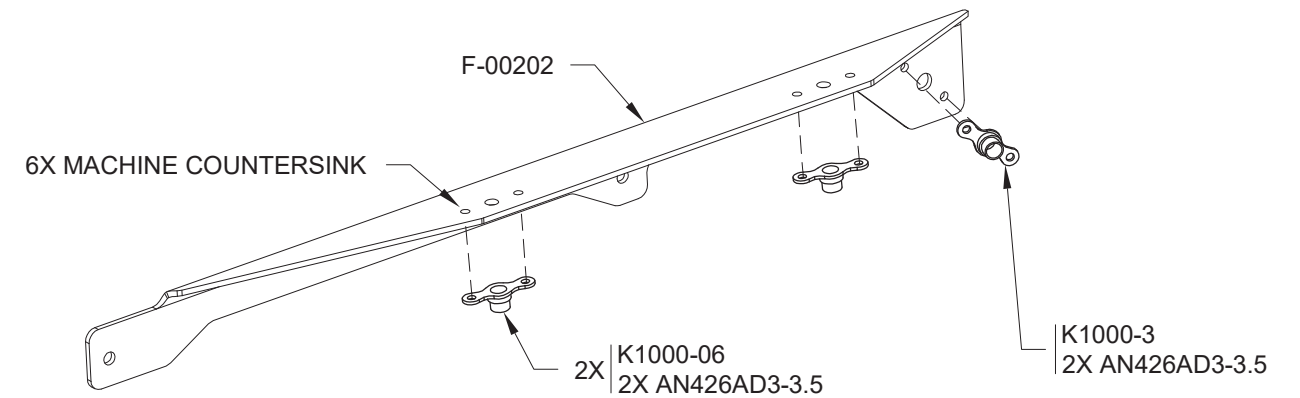

FIGURE 3: LEFT GARMIN XPNDR BRACKET
Step 4: Machine countersink the nutplate rivet holes in one F-00202 Trig/Garmin Xpndr Bracket, then install the nutplates as shown in Figure 3. This is now the Left Garmin Xpndr Bracket.